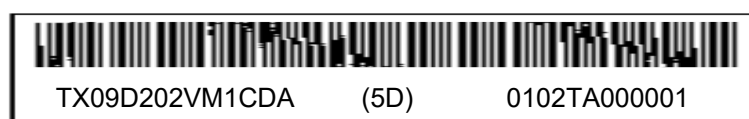

Fig. 13.2
- 4) The location of the lot mark is on the PCB shown in Fig. 13.2.